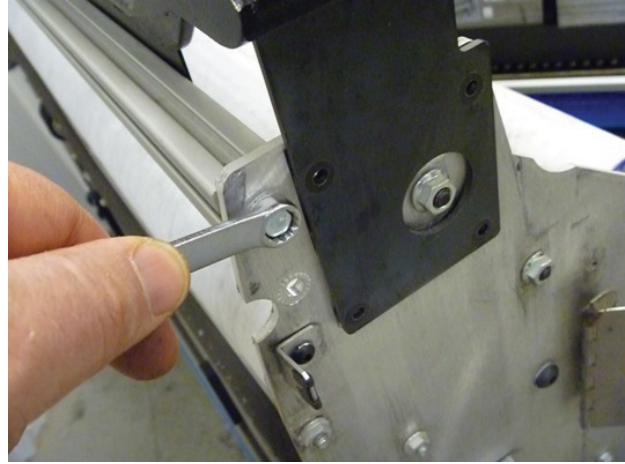

Figure 7
- Using a $\frac{3}{8}$ " wrench, remove the bolt that secures the front support rail to the 7pin side of the machine. Refer to *Figure 7*.